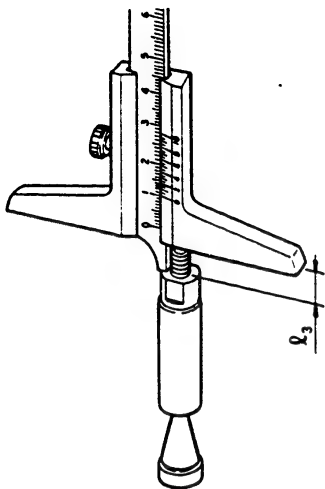

Fig. 123 Measuring the distance l_3
- 3. Measure the length l_3 of the adjusting pin's threaded portion. (Fig. 123)